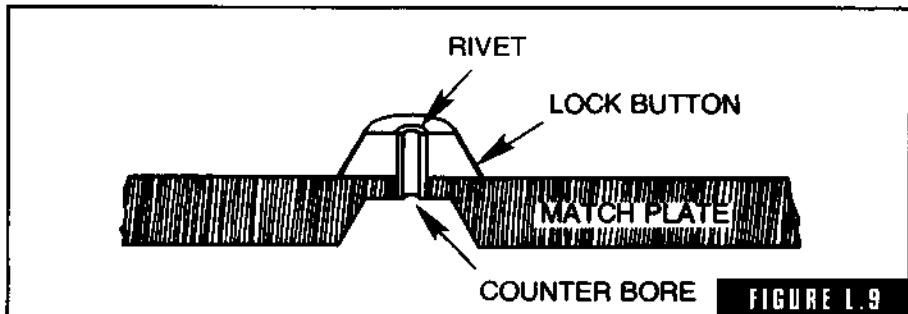

FIGURE L.9
**lock buttons** Aluminum buttons riveted to a matchplate directly over a corresponding counterbore recess (Fig. L-9). When the mold is made and the plate removed, you have sand projections on one face of the mold and corresponding female depressions directly opposite on the other face. When the mold is closed, these male and female sand members provide a sand-to-sand lock to help prevent the mold halves from shifting during handling, jacketing, pouring, etc.